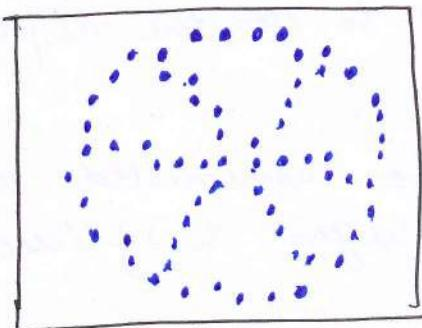

Fig. 4
The wheel picture in fig 4 illustrates two of the problems in drawing curved & straight lines on a graphic image.
e.g. If we were to enlarge the wheel of Fig. 4, it would no longer fit in the frame buffer.